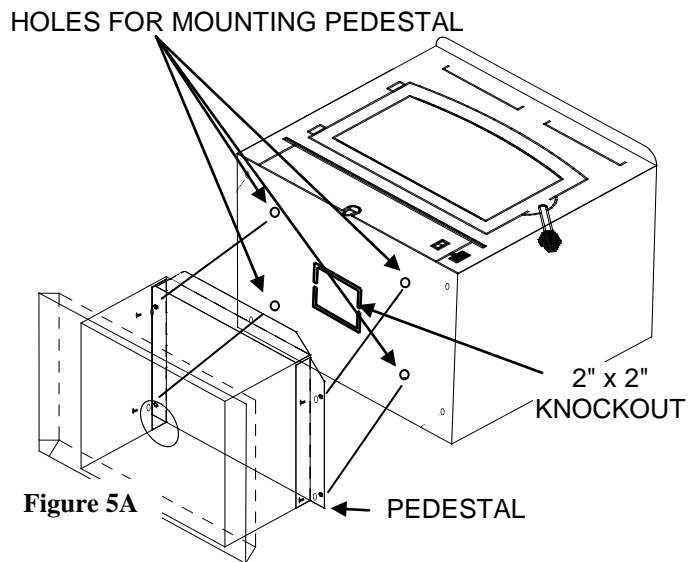

Figure 5A
6. **(Pedestal Kit):** If pedestal kit is being used an outside air is required, see *Out Side Air Installation* below. Open freestanding kit and obtain stand. Place stand against bottom of heater (angle side to heater). Center stand front to back and also center stand left and right. Mark screw locations on bottom of stove through outer holes of stand mounting angles. Set stand aside and drill four 7/32" holes in heater bottom. Before attaching heater to stand, take a large flat screwdriver or pliers and remove the 2" x 2" knockout on bottom of unit. (See Figure 5A). Then mount stand to bottom of heater with screws provided. (See Figure 5A).
7. Obtain four (4) 3/16" self-tapping screws and secure stand to heater.